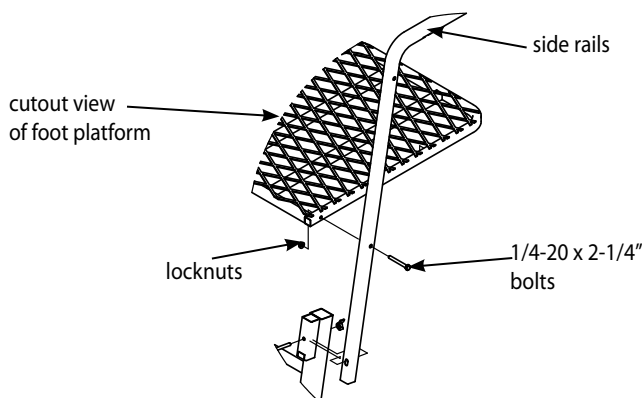

Figure 1
1. Attach the foot platform (1ML37) to the inside of side rails (SL61) using (2) provided 1/4-20 x 2-1/4" bolts and locknuts. **SEE FIGURE 1. DO NOT tighten all nut & bolt assemblies completely!**